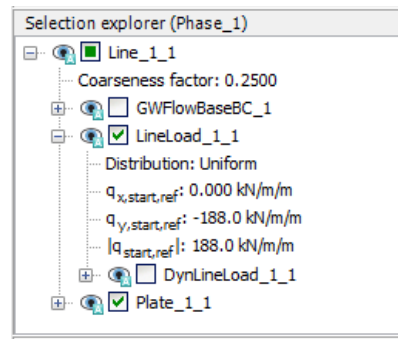

Figure 25: Definition of the load components in the **Selection explorer**
6. In the **Selection explorer** shown in Figure 25 (on page 36) assign  $-188 \text{ kN/m}^2$  to the vertical component of the line load. Note that, this gives a total load that is approximately equal to the footing force that was obtained from the first part of this tutorial. ( $188 \text{ kN/m}^2 \cdot \pi \cdot (1.0 \text{ m})^2 \approx 590 \text{ kN}$ ).